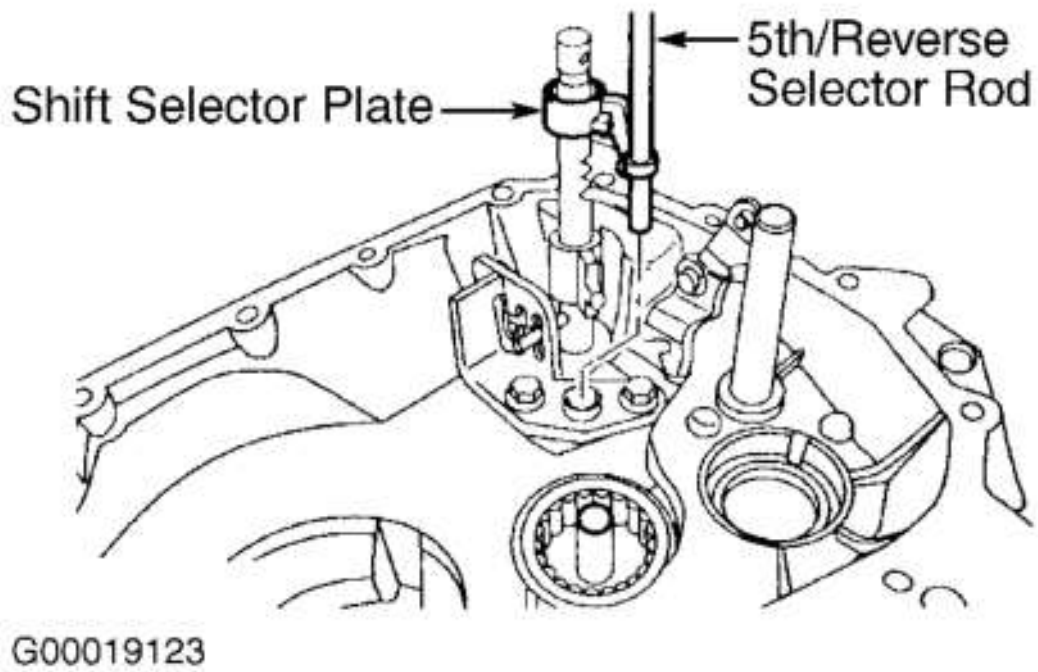

Fig. 11: Removing 5th-Reverse Shift Selector Plate & Rod
5. Remove reverse idler gear, differential gear and permanent magnet. See **Fig. 10** . Remove 5th-Reverse shift selector plate and rod. See **Fig. 11** . Remove output shaft bearing cone. Remove oil slinger. Using a hammer and punch, drive output shaft bearing race from transaxle case. Remove differential disk pack. Using a slide hammer, remove differential bearing race.